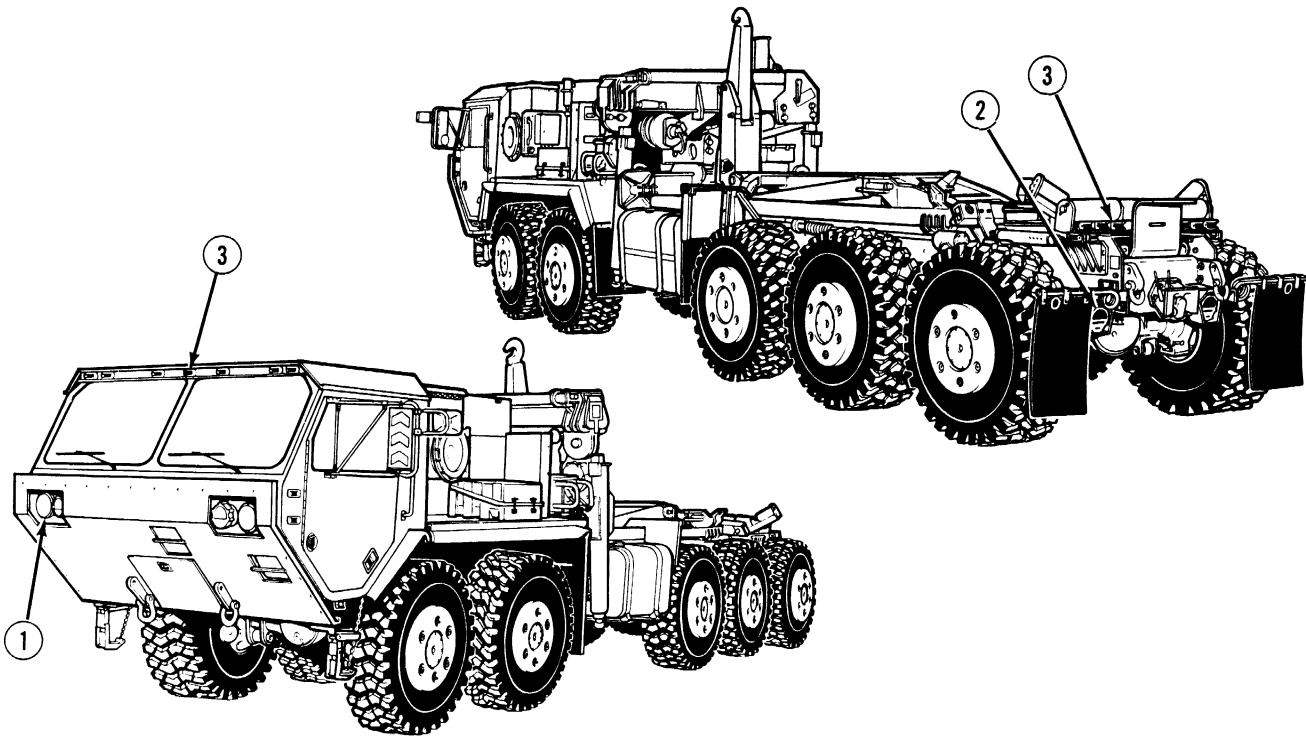

**Figure 1-12. Engine Starting System**
**b. Engine Starting and Stopping.** The engine starting system (Figure 1-12) uses the stored electrical energy of the batteries to turn the starter motor. When the ignition switch (1) is turned to the START position, electrical power is passed through the neutral safety switch to the starter relay. The starter relay, when energized, draws electrical power directly from the batteries and sends it to the starter motor solenoid. When the solenoid is energized, the starter motor draws electrical power from the batteries and turns the engine. To stop the engine, shut off ignition switch.